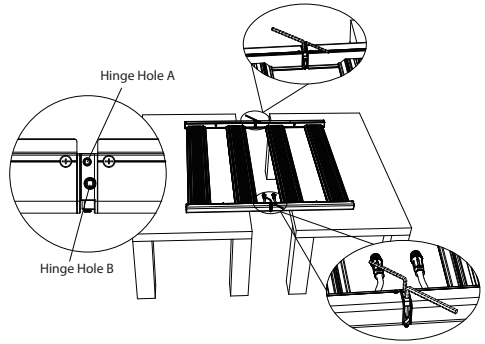

Fig. 4
d. Use allen key (Part D) to fasten hinge hole A and B on both side hinges, as Fig. 4.